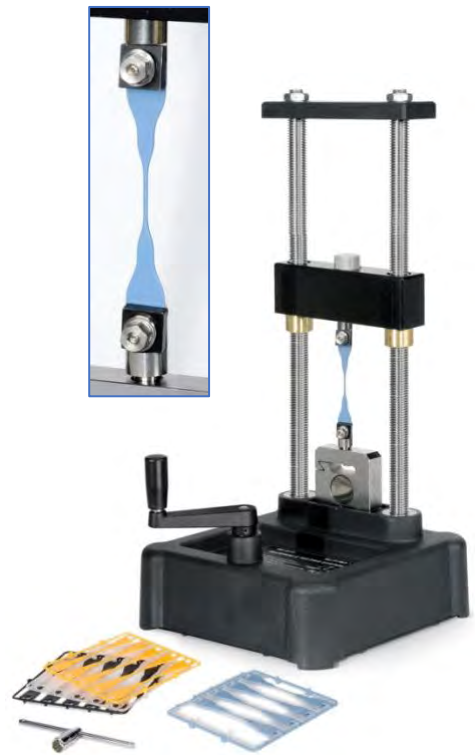

Figure 1: Testing Plastic Coupons
*Notice that the two parts of the Coupon Adapter are NOT identical. The one with the shorter threads goes on the bottom, and screws directly into the load cell as shown in Figure 1. Screw it most of the way in, but you want the clamp assembly to face forward so that you can use the wrench. The other adapter, with the longer threads, sticks up through the cross-head and is held by the knurled cap nut.*